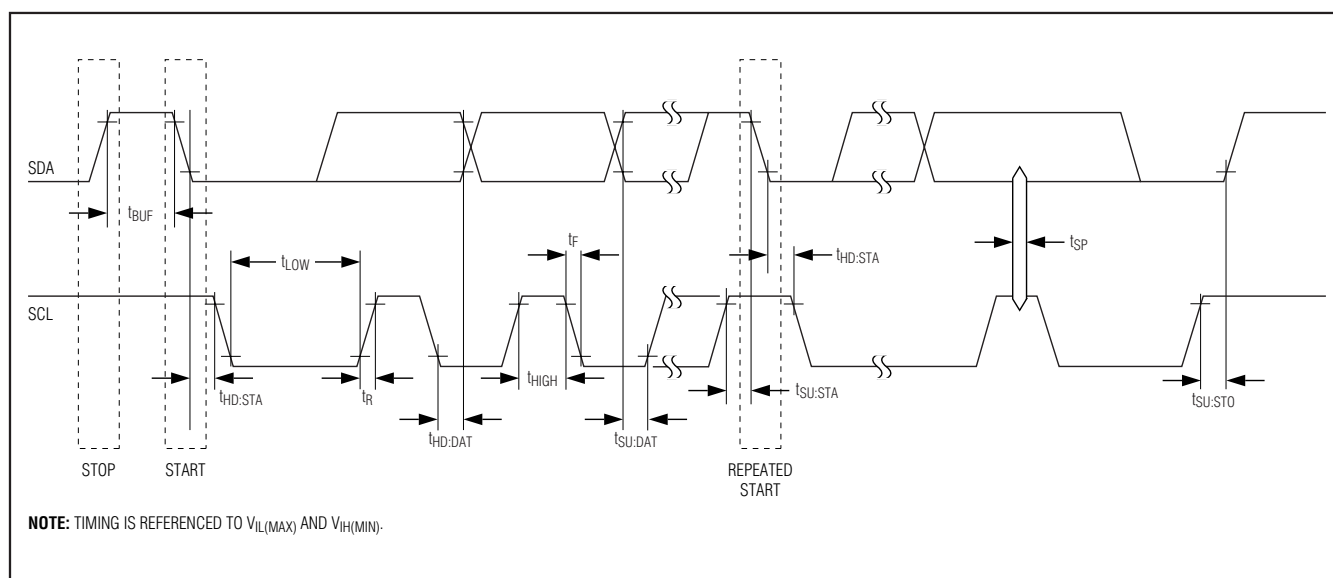

Figure 16. I2C Timing
**START condition:** A START condition is generated by the master to initiate a new data transfer with a slave. Transitioning SDA from high to low while SCL remains high generates a START condition. See Figure 16 for applicable timing.
**STOP condition:** A STOP condition is generated by the master to end a data transfer with a slave. Transitioning SDA from low to high while SCL remains high generates a STOP condition. See Figure 16 for applicable timing.
**Repeated START condition:** The master can use a repeated START condition at the end of one data transfer to indicate that it will immediately initiate a new data transfer following the current one. Repeated STARTs are commonly used during read operations to identify a specific memory address to begin a data transfer. A repeated START condition is issued identically to a normal START condition. See Figure 16 for applicable timing.
**Bit write:** Transitions of SDA must occur during the low state of SCL. The data on SDA must remain valid and unchanged during the entire high pulse of SCL plus the setup and hold time requirements (Figure 16). Data is shifted into the device during the rising edge of the SCL.
**Bit read:** At the end a write operation, the master must release the SDA bus line for the proper amount of setup time (Figure 16) before the next rising edge of SCL during a bit read. The device shifts out each bit of data on SDA at the falling edge of the previous SCL pulse and the data bit is valid at the rising edge of the current SCL pulse. Remember that the master generates all SCL clock pulses, including when it is reading bits from the slave.
**Acknowledgement (ACK and NACK):** An acknowledgement (ACK) or not acknowledge (NACK) is always the ninth bit transmitted during a byte transfer. The device receiving data (the master during a read or the slave during a write operation) performs an ACK by transmitting a zero during the ninth bit. A device performs a NACK by transmitting a one during the 9th bit. Timing (Figure 16) for the ACK and NACK is identical to all other bit writes. An ACK is the acknowledgment that the device is properly receiving data. A NACK is used to terminate a read sequence or as an indication that the device is not receiving data.